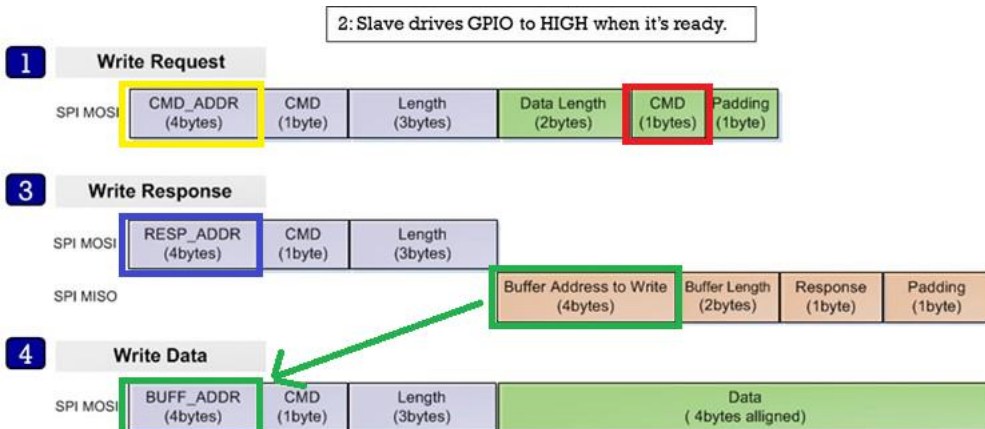

Figure 3: Structure for Write Operation
1. The Host sends a `WRITE_REQ` command (0x80, red rectangle in Figure 3) to the General Command address (0x50080254) (yellow rectangle in Figure 3).
3. The Host reads the Write Response message by Response Command address (0x50080258, blue rectangle in Figure 3) and parse it using `struct _st_host_response` (see 3.2.6).
- The Host sends data to address (BUFF_ADDR) which is received from the Slave in the Write Response message (green rectangle in Figure 3).